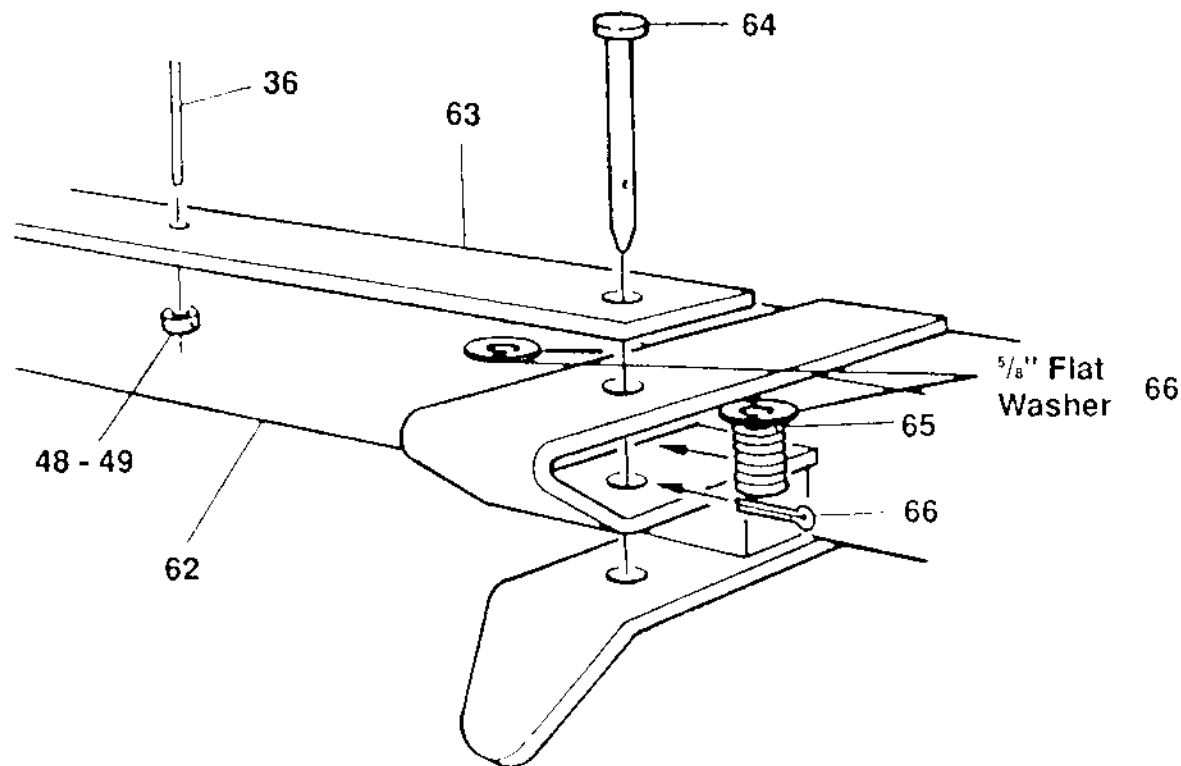

Figure 1
3. Assemble the PUSH BEAM ASSEMBLY (Ref. No. 62, Fig. 1) as shown.
PUSH BEAM ASSEMBLY PARTS LIST (FIGURE 1)